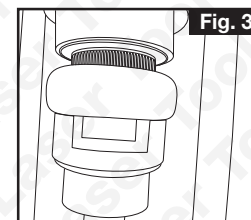

Fig. 3
1. Using adaptor **No. 1** in place of adaptor **No. 2** and adaptor **No. 4** in place of adaptor **No. 3** the new ball joint can be pressed back into the arm as shown in **Fig. 3**.